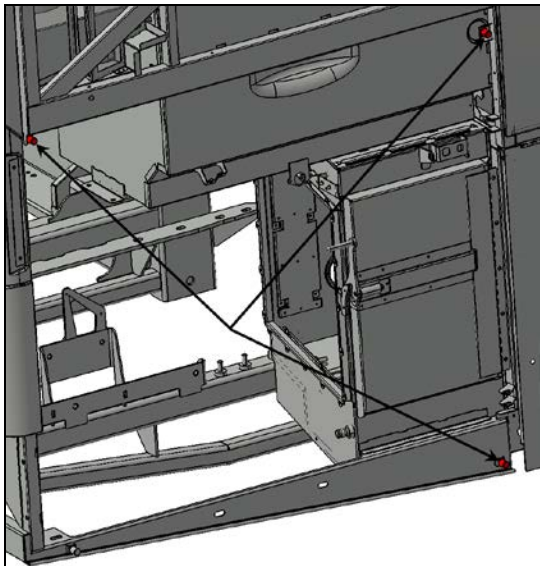
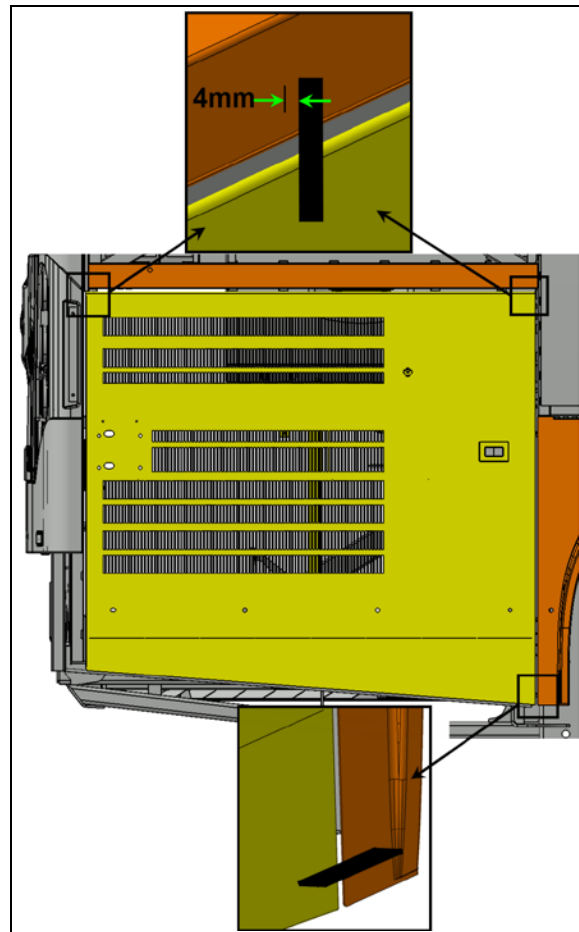

FIGURE 62
FIGURE 63
19. Screw in or out the two upper stoppers so that the upper part of the door exceeds the horizontal member by $\frac{5}{32}$ " to $\frac{3}{16}$ " (4mm to 5mm) (see FIGURE 62 & FIGURE 63).